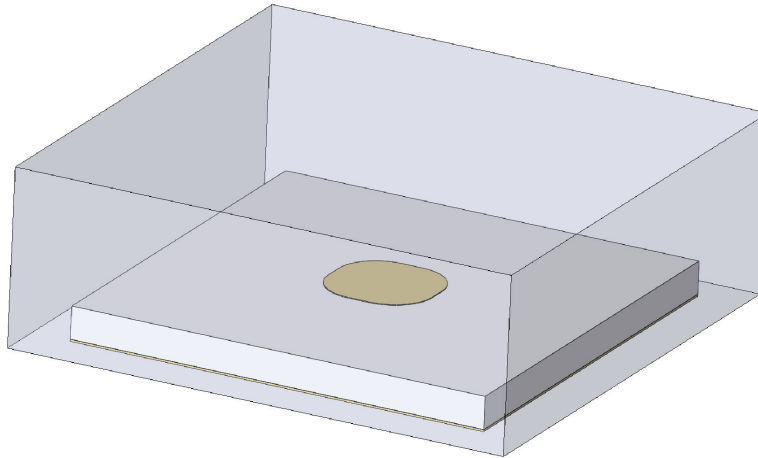

Figure 4: 3D model including air box
1. The surrounding air of the structure is modeled by a proper air box, as shown in Fig. 4. The size of the air box is calculated in line 123 and 124 (see Sect. 4.1). The top height of the air box is designed properly in order to cover the fringing field in the air.